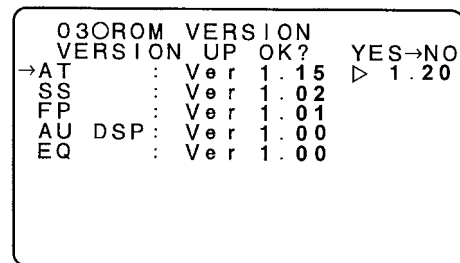

Figure 4
5. Select the AT ROM, and press the rotary encoder. Confirm the message VERSION UP OK appears. (See Figure 4.)